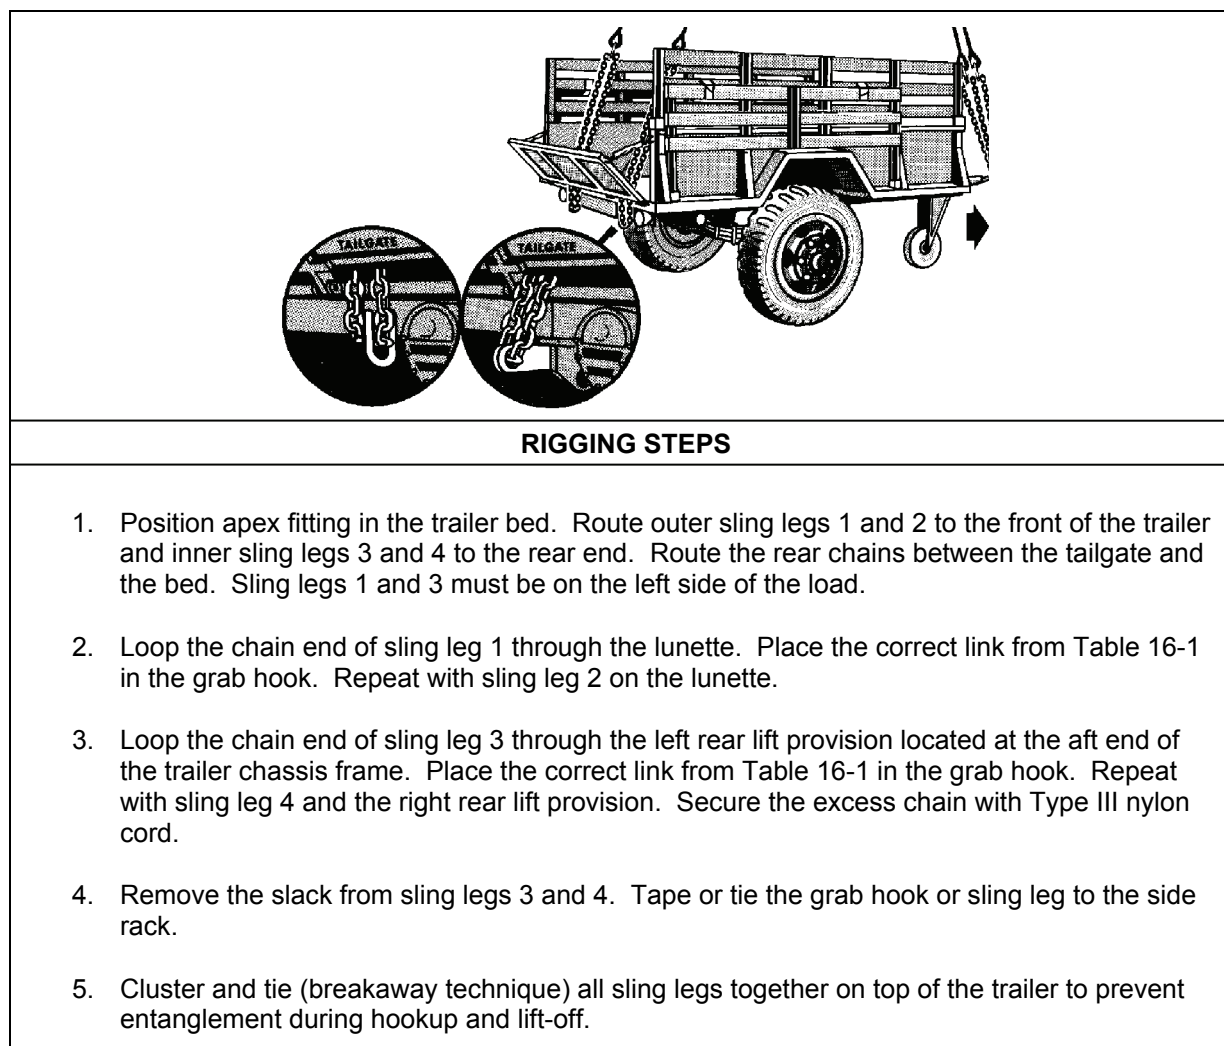

Figure 16-1. M105 1 1/2-Ton Trailer
- **Rigging.** Rig the load according to the steps in Figure 16-1.